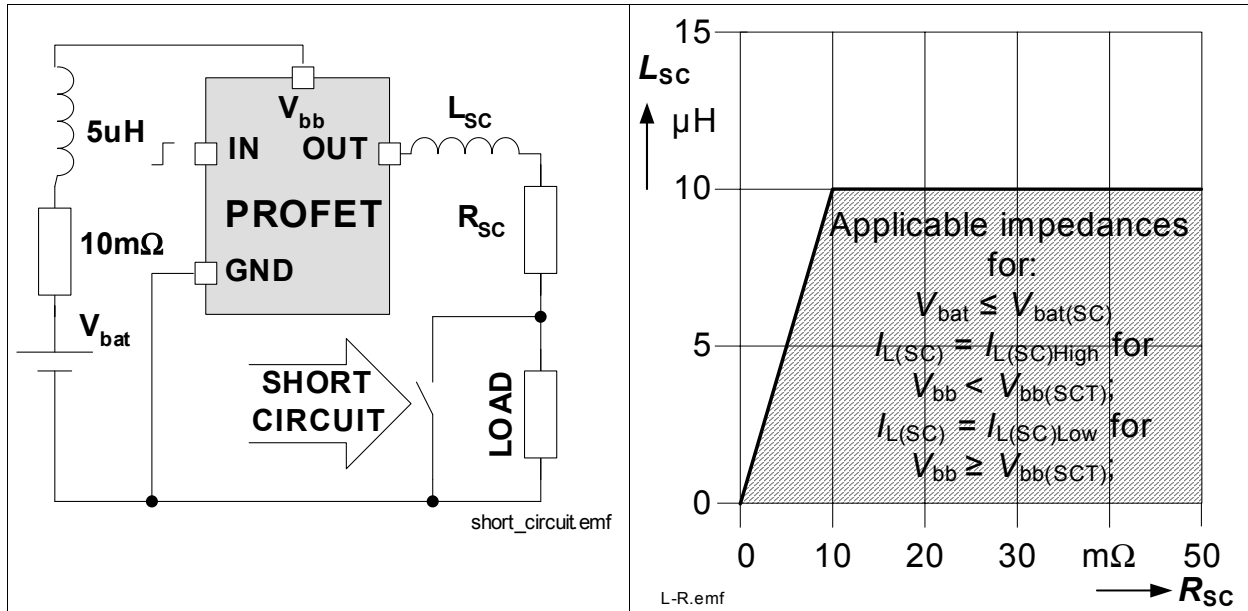

Figure 15 Short circuit
*Note: In case of a short circuit between OUT and ground, a impedance between  $V_{bat}$  and  $V_{bb}$  pin of the device (see Figure 15) may cause the device’s supply voltage to drop below  $V_{bb(u)}$  before short circuit shutdown threshold is reached. In that case, the device will detect an undervoltage condition and behave as described in Chapter 5.7.*
The capability to handle single short circuit events depends on the battery voltage as well as on the primary and secondary short impedance. Figure 15 outlines allowable combinations for a single short circuit event of maximum, secondary inductance for given secondary resistance.